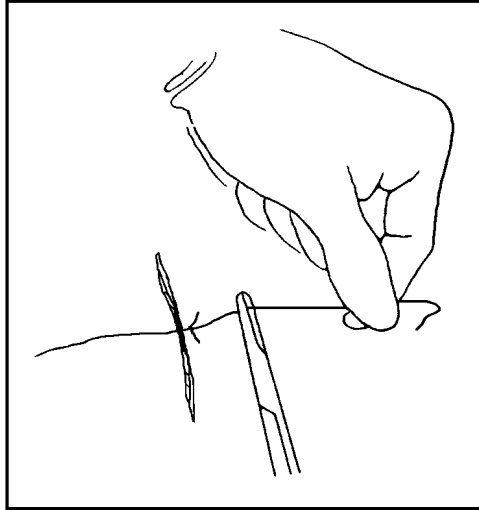

Figure 3-35
- (5) Pull with the suture material as close as possible to parallel with the skin. You will need to cross your hands as you pull down so the knot will pull evenly and lay flat on the skin.
- (6) Place the needle holder between the ends of the suture, parallel to the incision. (See Figure 3-35.)